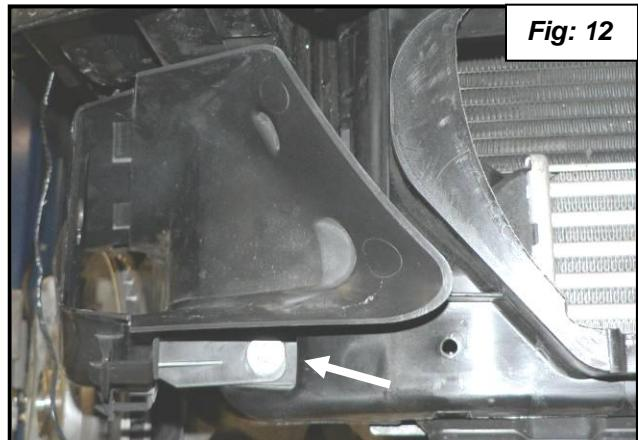

Fig: 12
17. Remove the right brake duct by removing the mounting screw. **See figure 12.**